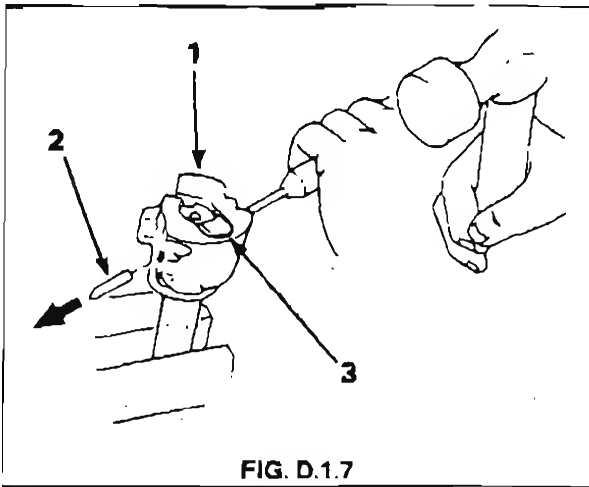

FIG. D.1.7
7. With bolt assembly gripped in a vice equipped with soft clamps, drive out the extractor retaining pin, taking care as the extractor will be under pressure from the spring inside. See Fig. D.1.7